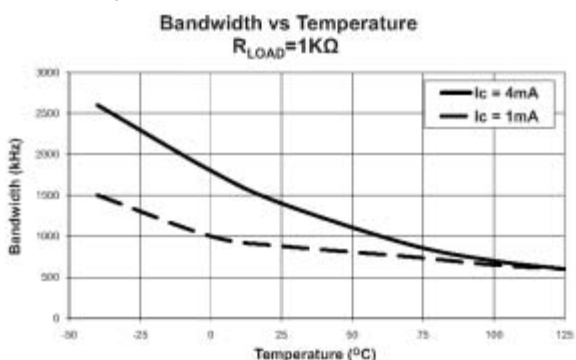

Figure 5. ACPL-M43T Bandwidth vs Temperature
Bandwidth across temperature is shown in figure 5, which indicates the worst case condition occurring at high temperature with typical bandwidth of 600kHz. At high temperature both current gain,  $\beta$ , and thermal voltage,  $v_T$ , in equation (7) increase resulting increased  $r_{\pi}$  and reduced bandwidth. Considering a variation up to  $\pm 30\%$  the